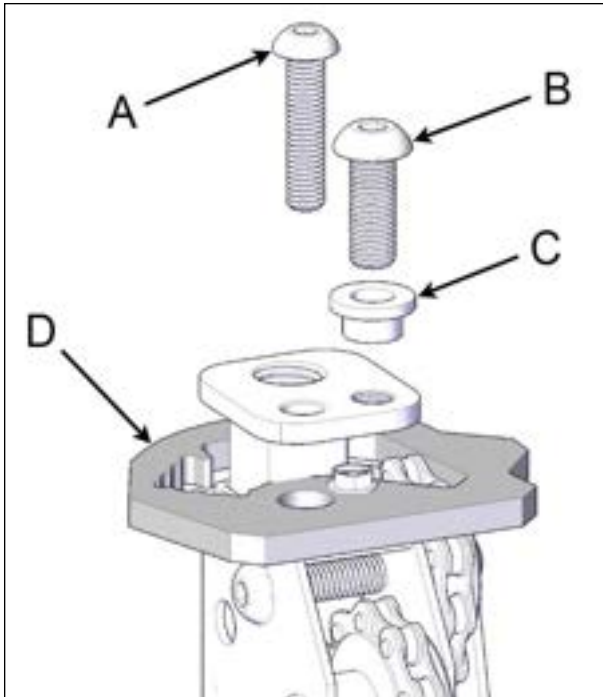

FIGURE 57: JACK LOCK SCREW
16. Once all the drive shafts are installed, the jack lock screws located at the top of the non-motor-side jacks can safely be removed. Remove the Allen M8 x 50 mm screws and keep them for future use see Figure 57.
17. Unscrew the 3/8" x 1" Allen bolt with a 7/32" (5.5 mm) socket on the top of all four jack assemblies. Put these parts in safe location see Figure 57.